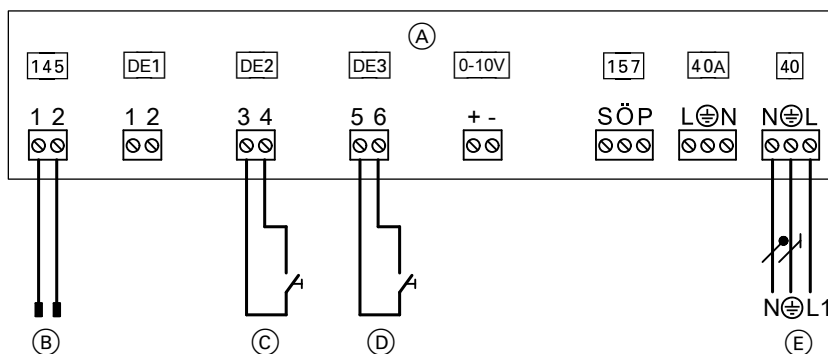

Fig. 9
- At the EA1 extension in accordance with Fig. 9